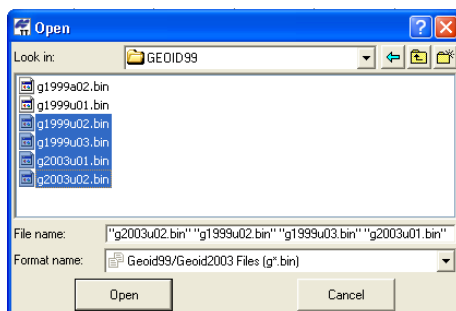

Figure 2-26. Open and Add Geoid List
- On the **Open** dialog box, navigate to the location of the geoids list and click **Open** to add the new geoid model to the Topcon Tools geoids list (Figure 2-26).